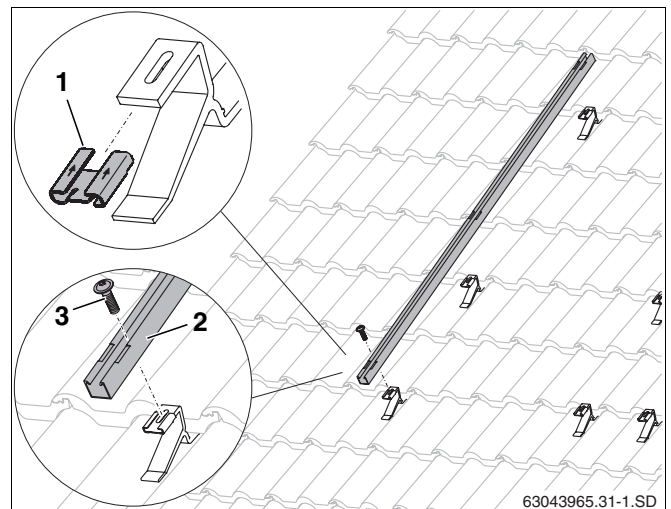

Fig. 29 Fastening the snow load profile
- ▶ Push sliding nut (Fig. 29, **Item 1**) onto the roof hook in the direction of the arrow.
- ▶ Place the snow load profile (Fig. 29, **Item 2**) onto the roof hooks and tighten using an M8 bolt (Fig. 29, **Item 3**).